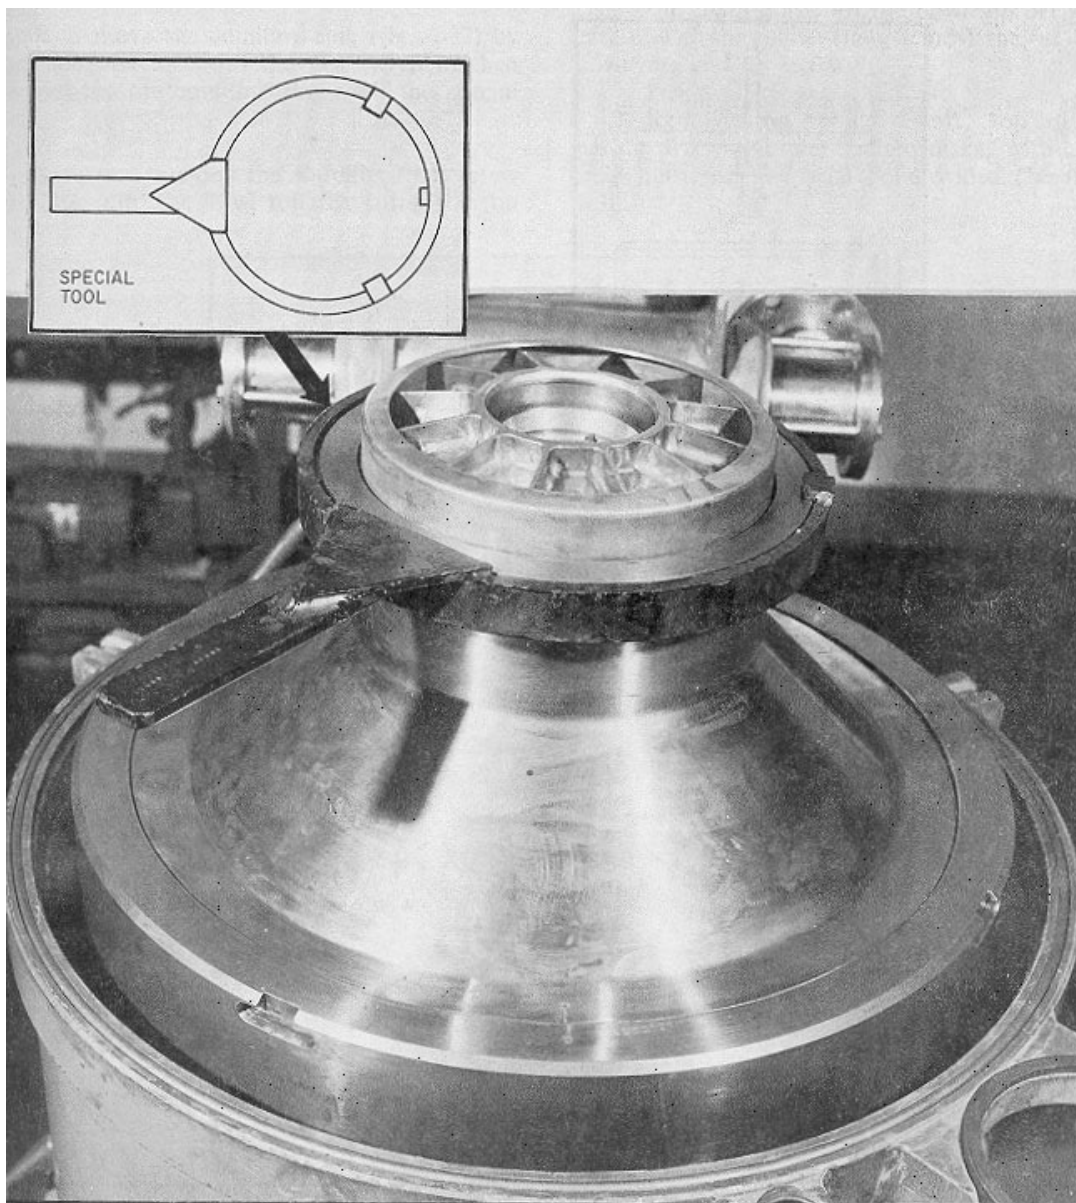

Figure 2-57.—Removing bowl top coupling nut (with special tool).
4. Unscrew the bowl top coupling nut (fig. 2-57), using the special tool (inset, fig. 2-57) and remove the discharge ring and rubber ring.